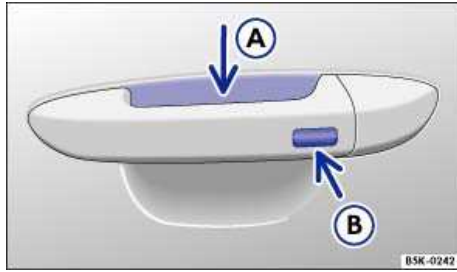

Fig. 24 Keyless Access system: Sensor for unlocking A on the inside of the front door handles. Sensor for locking B on the outside of the front door handles.
All you have to do is touch a sensor surface on one of the front outside door handles ⇒ fig. 24 or push the Volkswagen emblem on the rear hatch ⇒ *Opening the rear hatch* when a valid remote control vehicle key is within range ⇒ ⏰.
- Keyless Entry: Unlocking the vehicle with the sensor surfaces on the outside door handles of the driver or front passenger door ⇒ fig. 24 \(A\) or by using the Volkswagen emblem on the rear hatch.
To use the convenience closing feature to close all power windows and the sunroof, hold your finger on the lock sensor surface on the outside of the door handle ⇒ fig. 24 \(B\) for a few seconds until the windows and sunroof close.